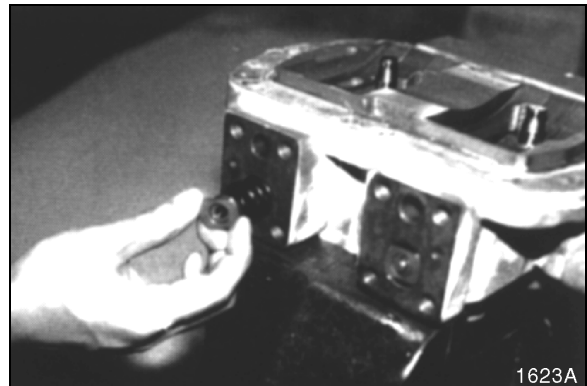

Figure 30
3. Remove spring seat. See Figure 30.